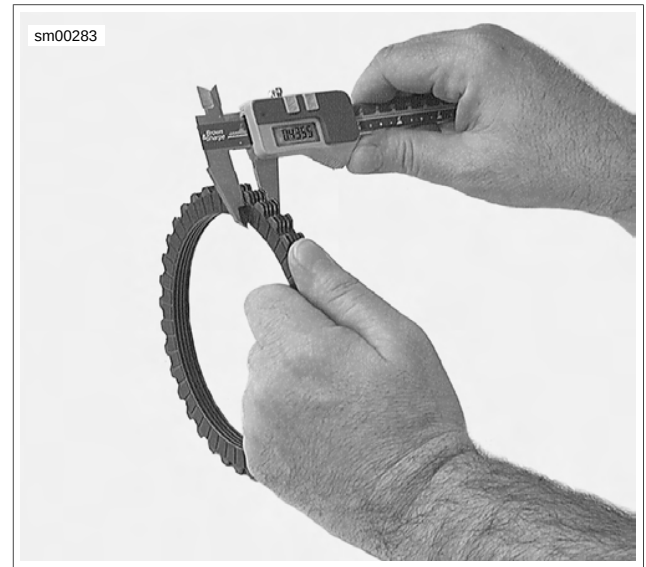

Figure 6-15. Measuring Friction Plates
5. See Figure 6-15. Check fiber plates for thickness.